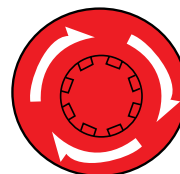

**Figure 48. Battery Switch (OFF)**
6. Set the **battery ON/OFF switch** (Figure 48) to the "**OFF**" position.